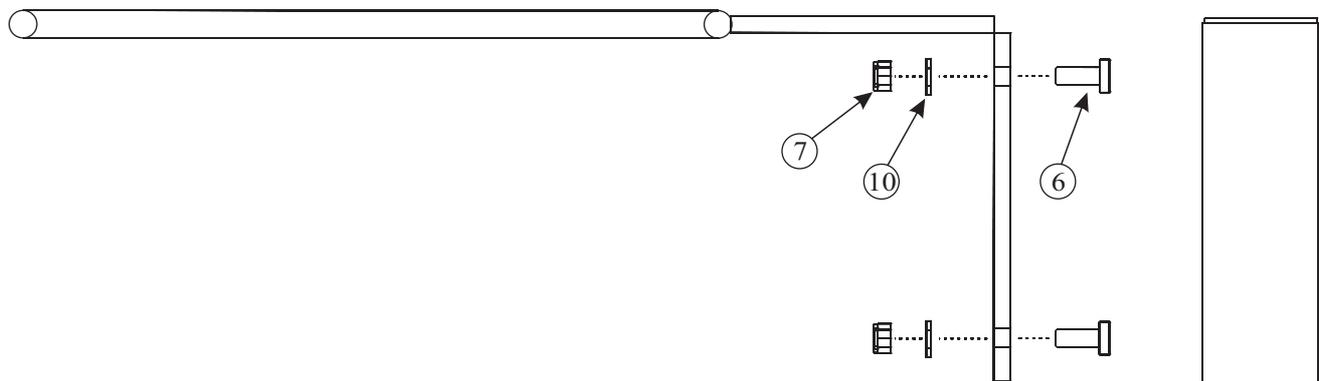

Fig 3
3 Slide 2 M10x25 bolts (6) up the recess of the aluminium extrusion. Offer the netball ring up to the recess in the post locating the bolts through the plate, ensure that the top of the plate in the ring is flush with the top of the post and secure with M10 Nyloc (7) and Washer (10) (Fig 3).